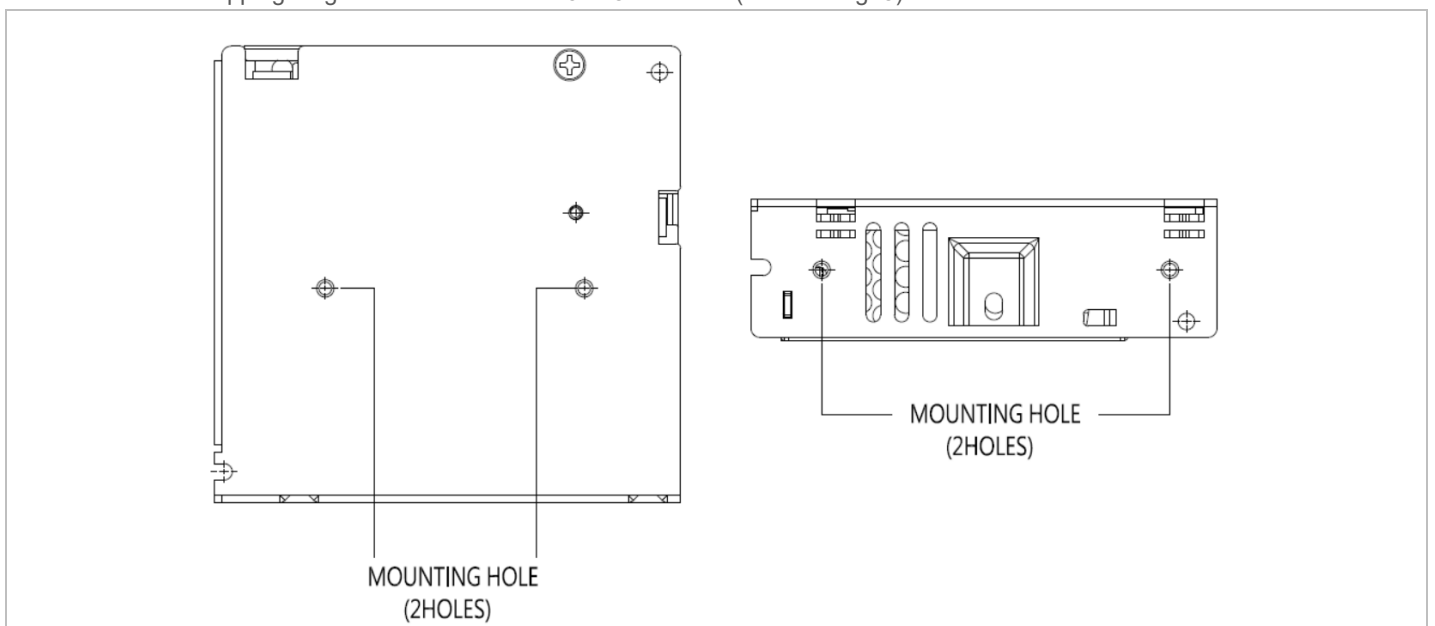

Fig. 3 Assembly Reference
- Use flexible cable (stranded or solid) of AWG No. 18-12. User should calculate and select the suitable wire specification (type/quantity/diameter) according to actual output current. The torque at the Connector shall not exceed 8Kgf.cm. (6.94 lbf.in). The insulation stripping length should not exceed 0.275" or 7 mm (Refer to Fig. 3).